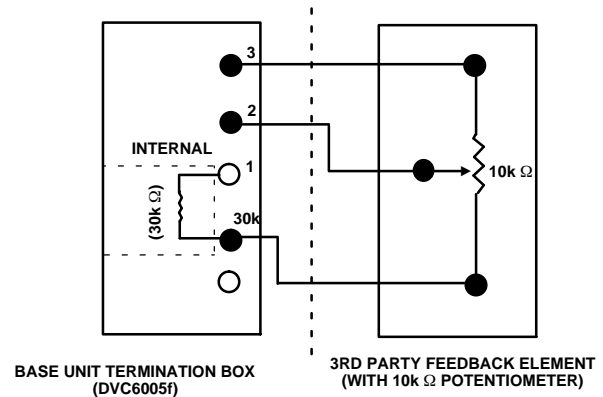

Figure 2-23. Terminal Details for Connecting a FIELDVUE DVC6005f Base Unit and a 10 kOhm External Potentiometer
3. If necessary, install conduit between the potentiometer and the base unit following applicable local and national electrical codes. Route the 3-conductor shielded cable between the two units (refer to figure 2-23).